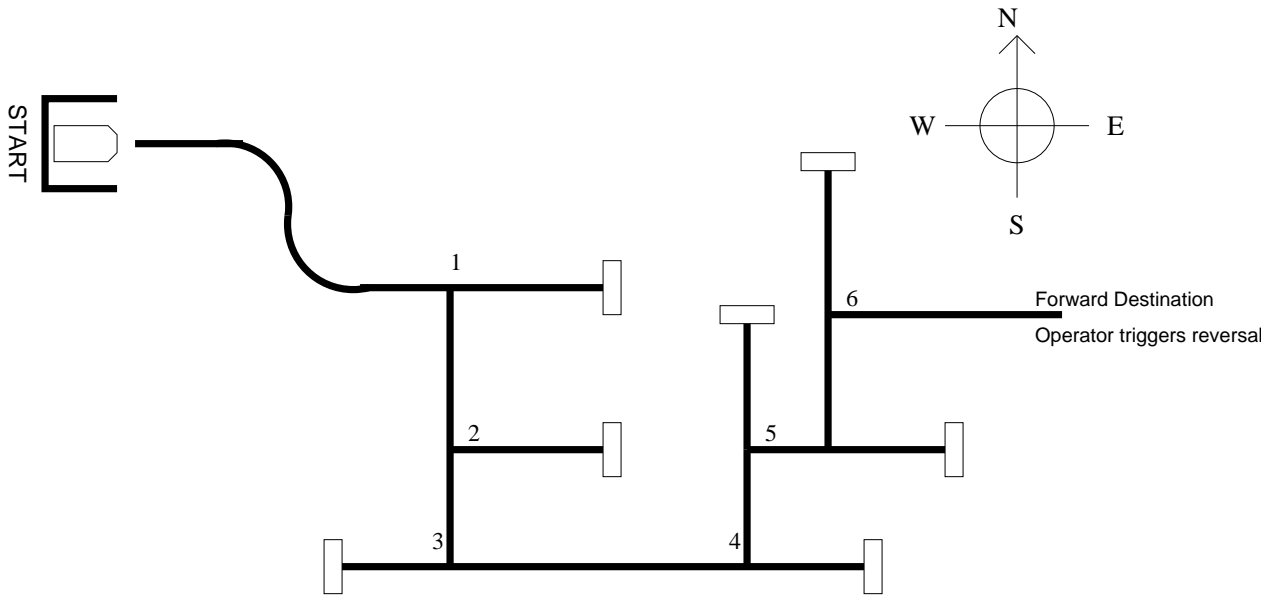

Figure 1: Robot Guidance Challenge
This year, the COE538 Project is to program the *eebot* mobile robot with a navigation system that can find it's way through a maze, reverse, and back it's way out again. A possible maze is shown (not to scale) in figure 1.
- The exact layout is subject to change at the last minute, but will include features similar to those shown in figure 1.
For example, suppose the robot enters the maze shown in figure 1 and encounters intersection # 1. It detects the branching path to the South and understands that it has a choice of continuing East or turning South. Randomly, it choses to continue East (which is incorrect).